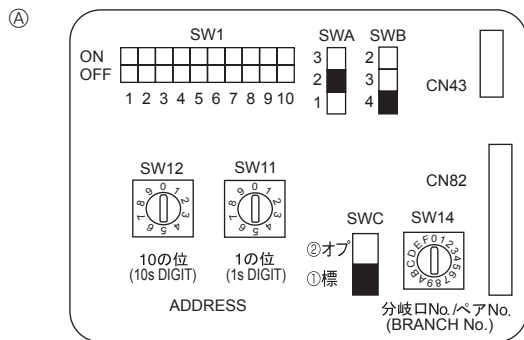

Fig. 5-4
5.5. Setting addresses (Fig. 5-4)
- ① How to set addresses
- ② How to set branch numbers SW14
5.6. Switch setting for high ceiling or at the time of changing the number of air outlets (Fig. 5-4)
④	4 direction	2.5 m	2.7 m	3.5 m
③	3 direction	2.7 m	3.0 m	3.5 m
②	2 direction	3.0 m	3.3 m	3.5 m
5.7. Sensing room temperature with the built-in sensor in a remote controller (Fig. 5-4)